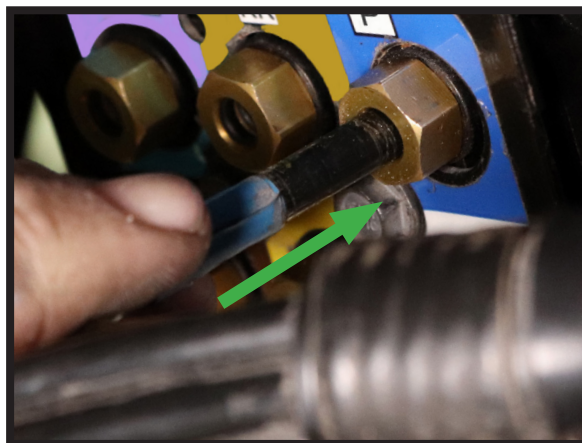

FIGURE 14
3. INSERT THE AIR LINES INTO THE VALVE BLOCK. PRESS THE LINES IN FIRMLY UNTIL THEY ARE FULLY SEATED. (FIGURE 14)